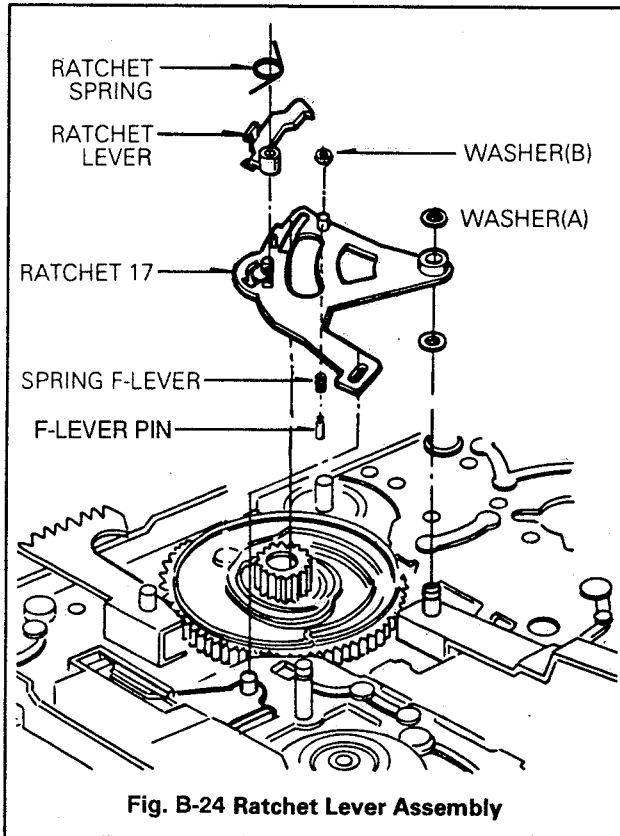

Fig. B-24 Ratchet Lever Assembly
24. Ratchet Lever Assembly(Fig. B-24)